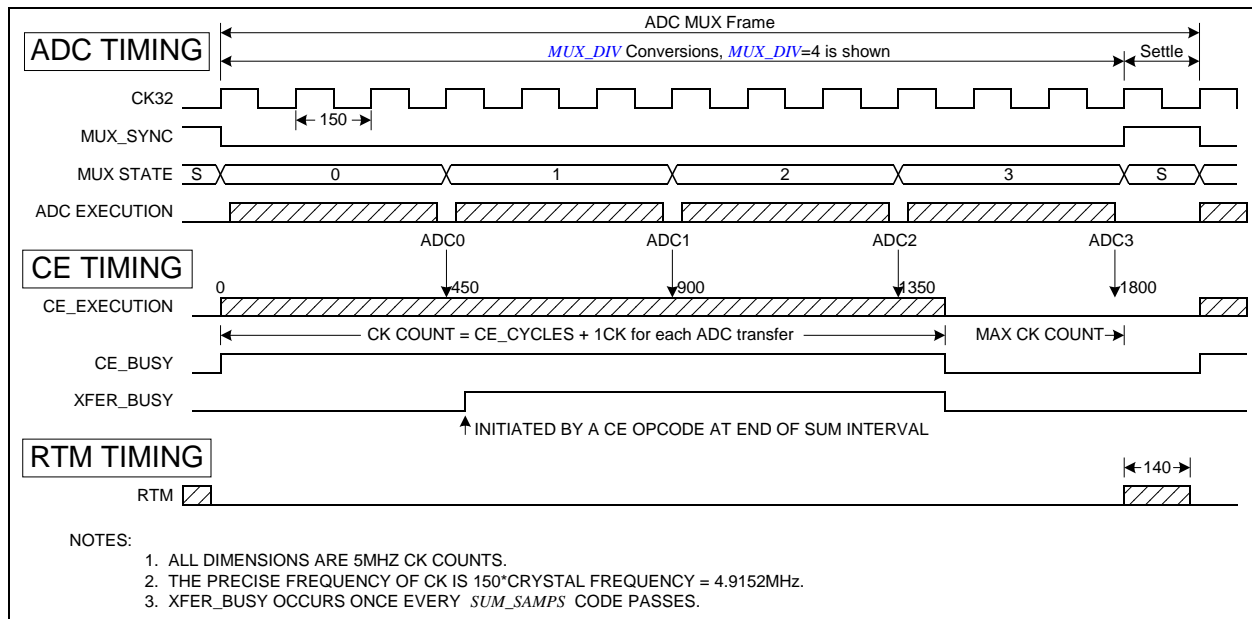

Figure 11: Timing Relationship Between ADC MUX, CE, and RTM Serial Transfer
Figure 11 summarizes the timing relationships between the input MUX states, the CE\_BUSY signal, and the RTM serial output stream. In this example,  $MUX\_DIV[3:0] = 4$  (I/O RAM 0x2100[7:4]) and  $FIR\_LEN[1:0] = 10$  (I/O RAM 0x210C[1]), (384), resulting in 4 ADC conversions. An ADC conversion always consumes an integer number of CK32 clocks. Followed by the conversions is a single CK32 cycle.
Figure 11 also shows that the RTM serial data stream begins transmitting at the beginning of state S. RTM, consisting of 140 CK cycles, always finishes before the next CE code pass starts.